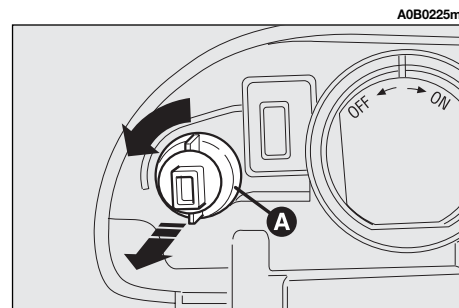

fig. 30
- Turn the bulb holder counter-clockwise (**A-fig. 30**) and remove it.